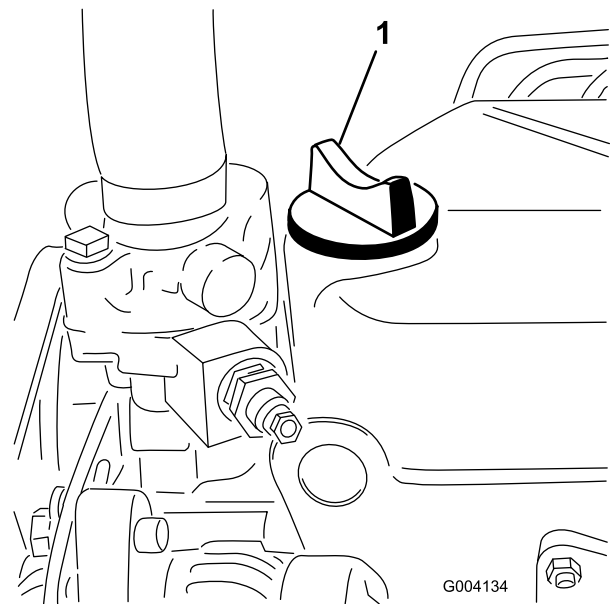

Figure 14
5. If the oil level is below the Full mark, remove the fill cap (Figure 14) and add oil until level reaches the Full mark on dipstick.